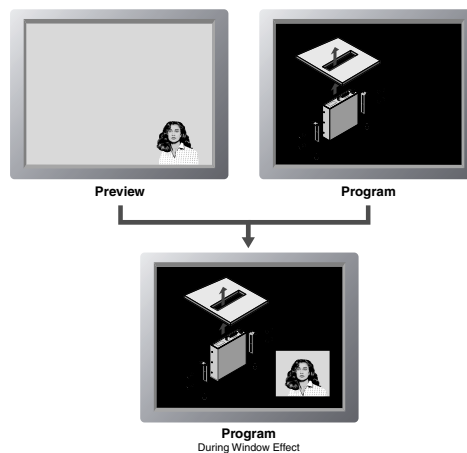

Figure 3-36 — ECP window title effect
ECP window causes a predefined box in the program image to dissolve to reveal the preview image (figure 3-36). The effect is as if the preview image were located behind the program image, and a window in the program image opens to show the preview image. When the effect ends, the preview image disappears, and the program image is again intact (see “Changing the title settings” on page 3-8 for information on defining the title box).
4. Press the control button for window or key depending on which title effect is desired (see figures 3-36 and 3-37).